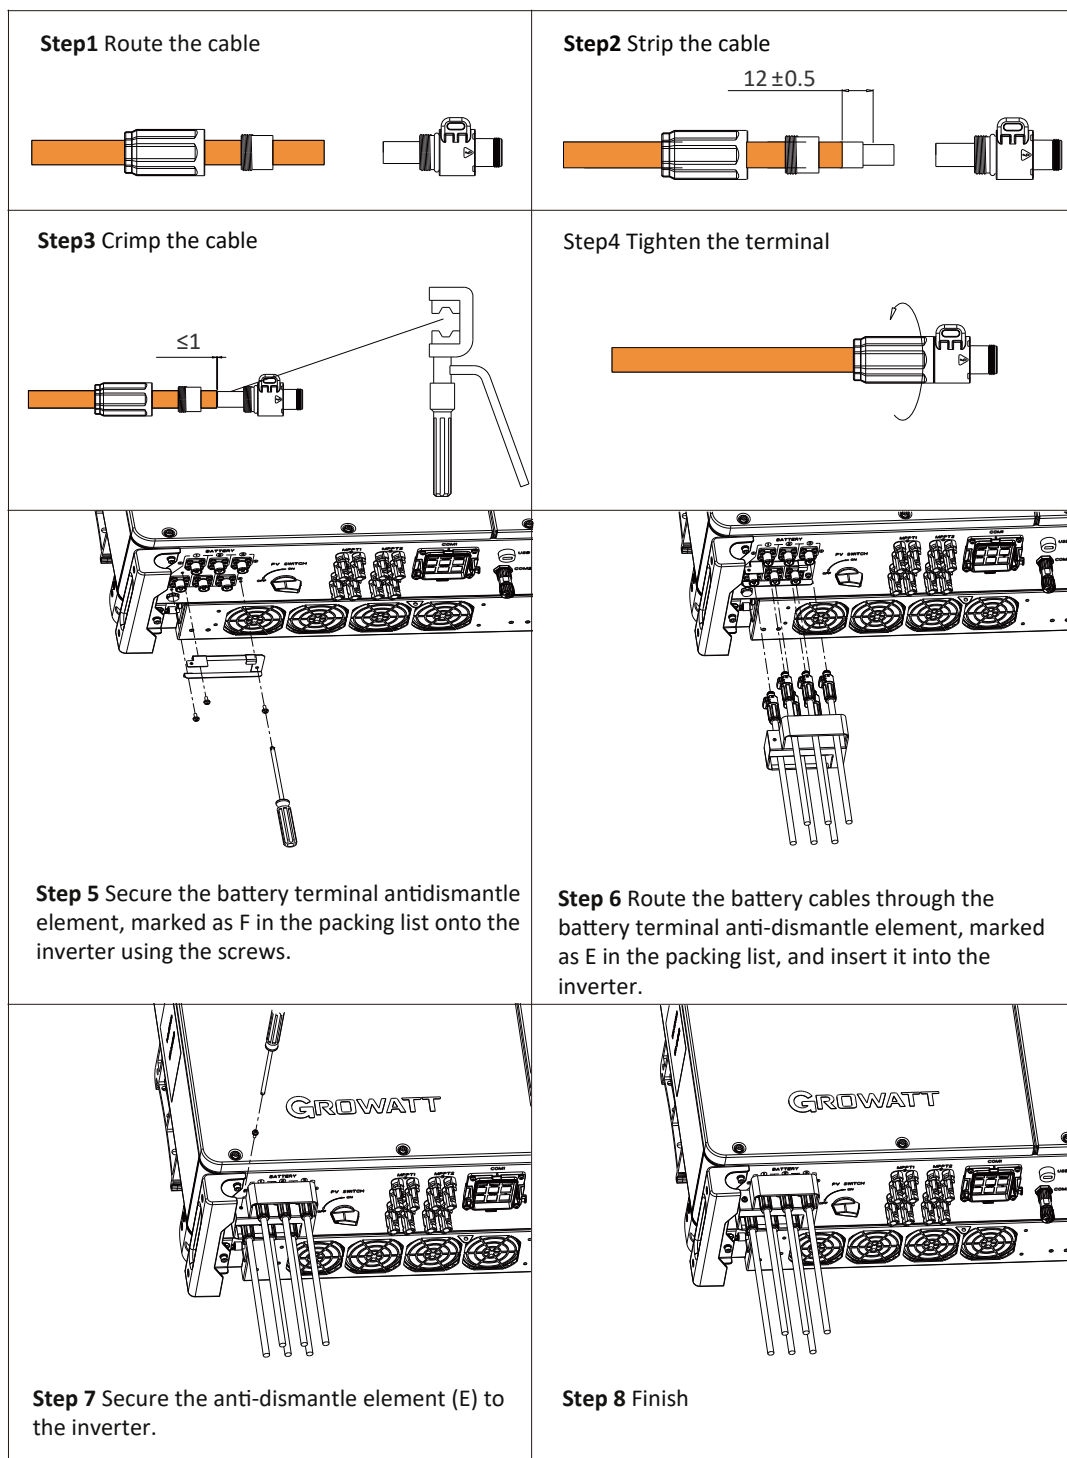

Fig 6.15 Position of the battery terminals
5. Connect the battery cables to the battery terminals on the inverter, as shown in Fig 6.15;